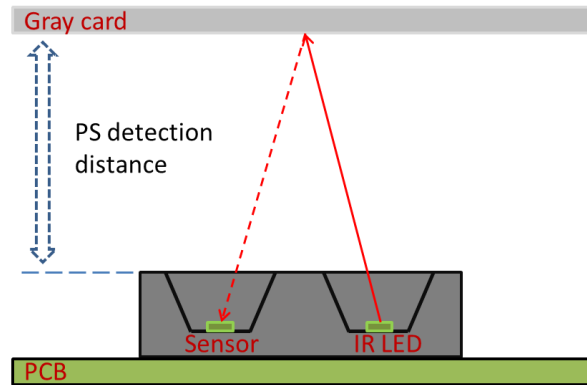

Figure 5. Schematic diagram of proximity sensing
Proximity sensors are commonly used to detect distance between object and APM. The principle is using IR LED emitting infrared rays and PD detects the intensity of infrared light which is reflected from the object to decide the object distance. Refer to Figure 5 for the principle of proximity sensing (PS) operation.